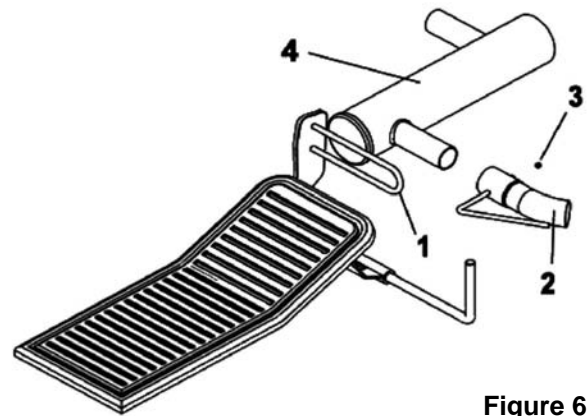

Figure 6
Make sure to put the cab between the guard (fig. 6, item 1) and the footrest to prevent heat damage from the muffler.